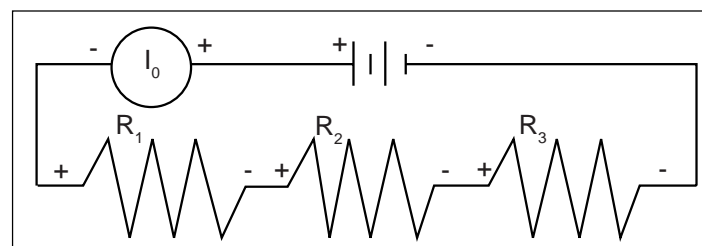

Figure 6.2
- ② Now change the leads in your DMM so that they can be used to measure current. You should be using the scale which goes to a maximum of 200 mA. Be careful to observe the polarity of the leads (red is +, black is -). In order to measure current, the circuit must be interrupted, and the current allowed to flow through the meter. Disconnect the lead wire from the positive terminal of the battery and connect it to the red (+) lead of the meter. Connect the black (-) lead to R_1 , where the wire originally was connected. Record your reading in the table as I_0 . See Figure 6.2.